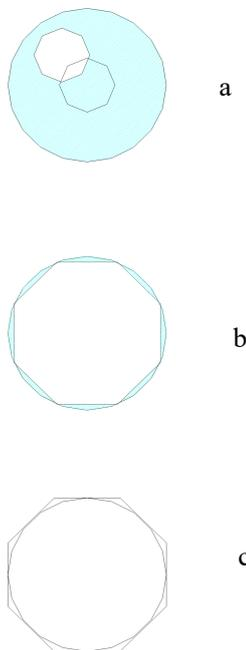

Fig 10
2. Adjust the the field iris diaphragm lever② anti-clockwise until the diaphragm comes into the smallest.
3. Use the hexangular wrench to adjust the two field iris diaphragm centering screws③ alternately to move the image of the diaphragm to the center. (a of Fig.10 shows the adjustment of diaphragm)
4. After adjusting the aperture, clockwise rotate the field diaphragm adjustment lever ②, open to biggest aperture, can more clearly determine whether the aperture is centered (b of Fig.10).
5. Enlarge the diaphragm until it just circumscribes the field of view (c of Fig.10).